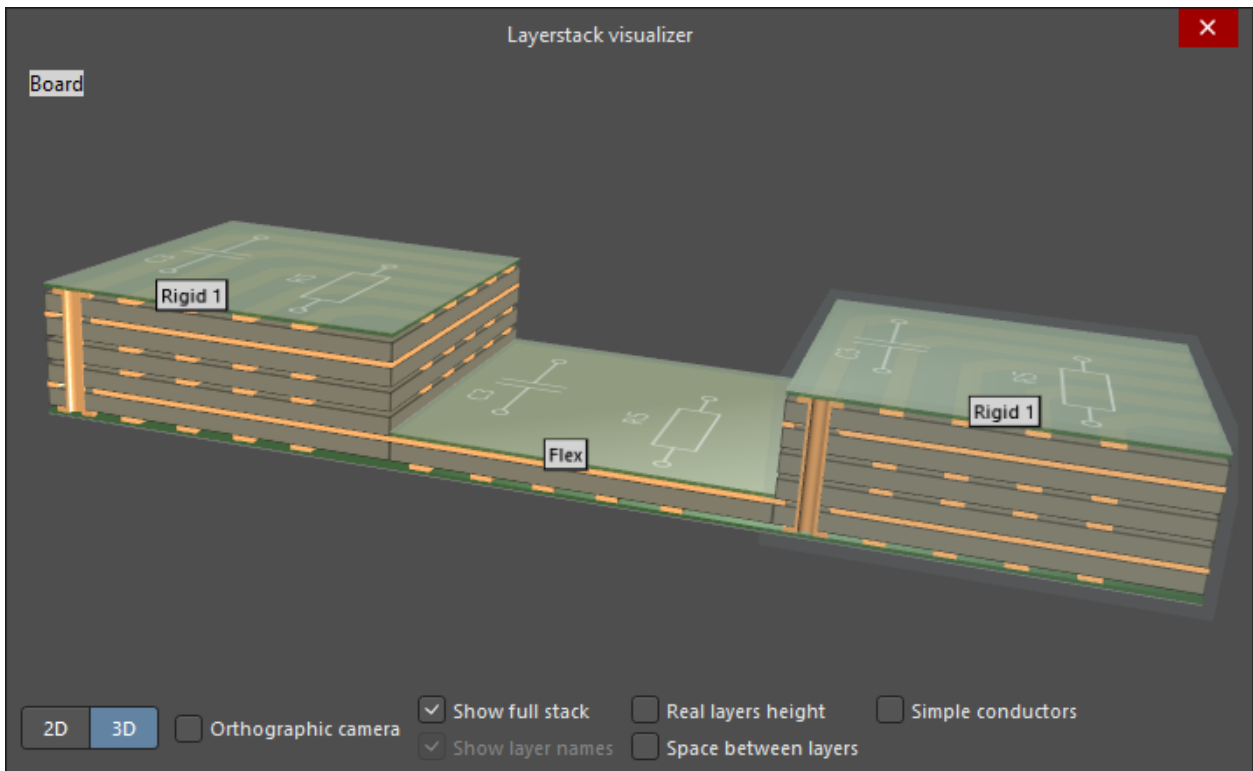

Figure 14. Rigid-Flex-Rigid Stack in 3D
29. To see all 3 stacks in our design, enable the **Show Full Stack** checkbox near the bottom of the *Layerstack Visualizer* window as shown in Figure 14.